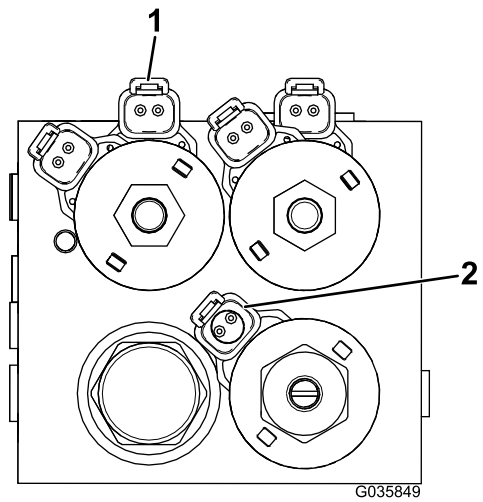

Figure 14
16. Locate the hydraulic block connections on the wire harness and plug them into the appropriate locations on the hydraulic block; refer to Figure 14.